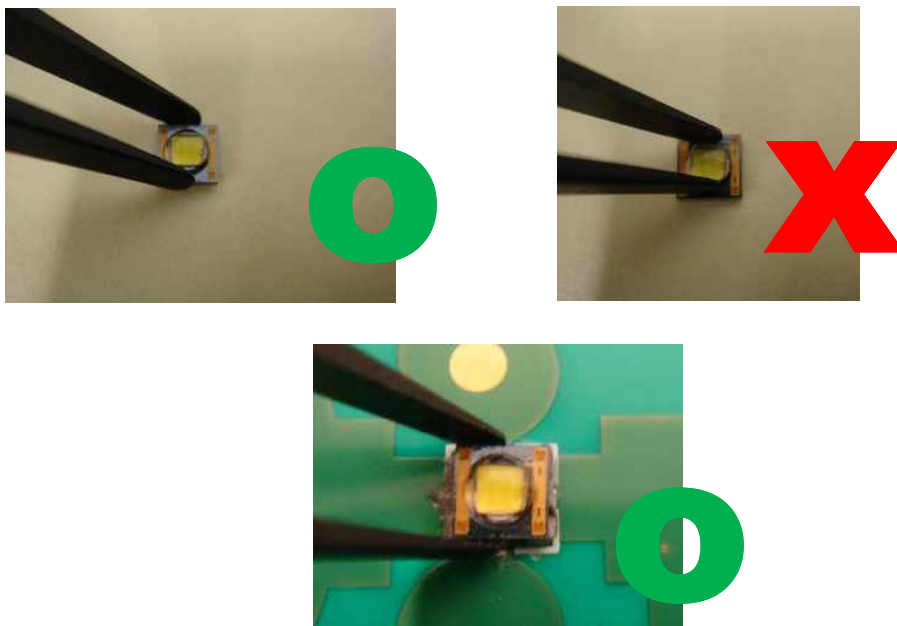

Figure 4. Proper to use the tweezers
2. If need to do the pick and place by manual, only plastic tweezers is allowed. Do not touch the lens with the tweezers or fingers. Use tweezers to grab the S35 Emitters at the base gently and put onto the PCB with solder paste carefully as Figure 4.